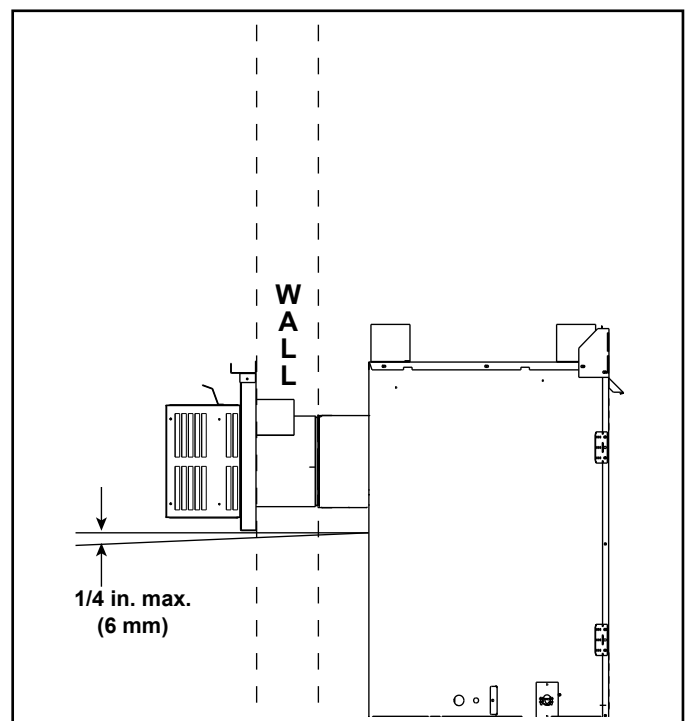

Figure 4.9 Vent Cap - Generic Fireplace Shown
- Horizontal termination cap should have a 1/4 inch downward slant to allow any moisture in cap to be released. See Figure 4.9.